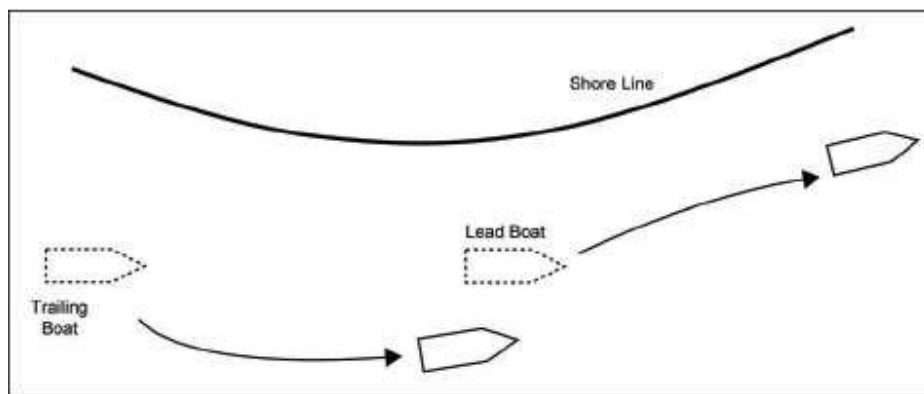

Figure 5-2. Successive Bounds Overwatch
1. Successive Bounds. The trailing (overwatch) boat and the lead (bounding) boat exchange cover to provide for maximum security in the successive bounds overwatch technique (see Figure 5-2). The bounding element moves forward an appropriate distance and stops to provide security for the overwatch element. The overwatch element then moves forward to the vicinity of the bounding element. The bounding element proceeds forward under the cover of the overwatch element.